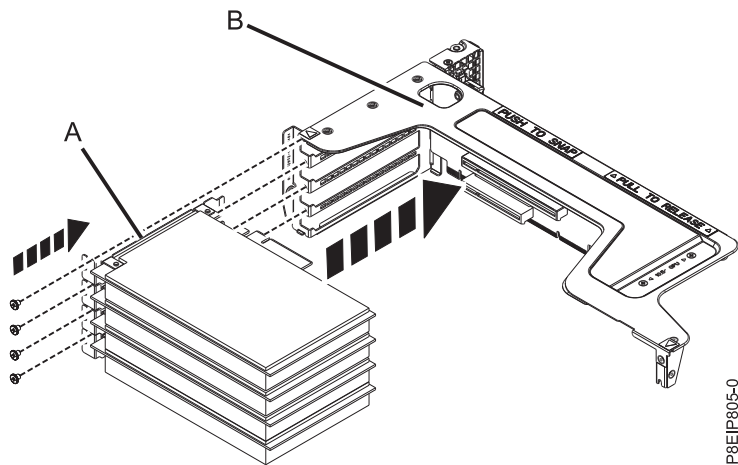

Figure 55. Inserting a PCIe adapter into the riser
- g. Plug the adapter (A) into the proper slot in the PCIe adapter riser (B) as shown in Figure 55 on page 86.